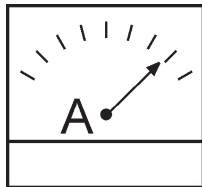

Figure 52. 9Ammeter (Load)
- Observe the generator's ammeter (Figure 52) and verify it reads the anticipated amount of current with respect to the load. The ammeter will only display a current reading if a load is in use.